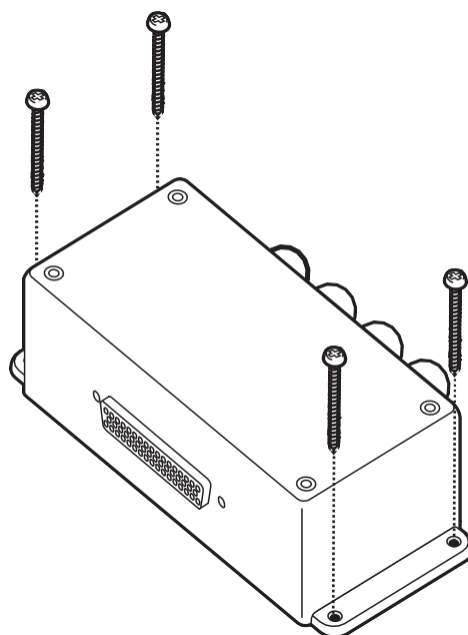

Figure 36 Mounting the junction box
- The transceiver is supplied with four self tapping screws for attachment of the junction box to a suitable surface. Please refer to Figure 36 for guidance.